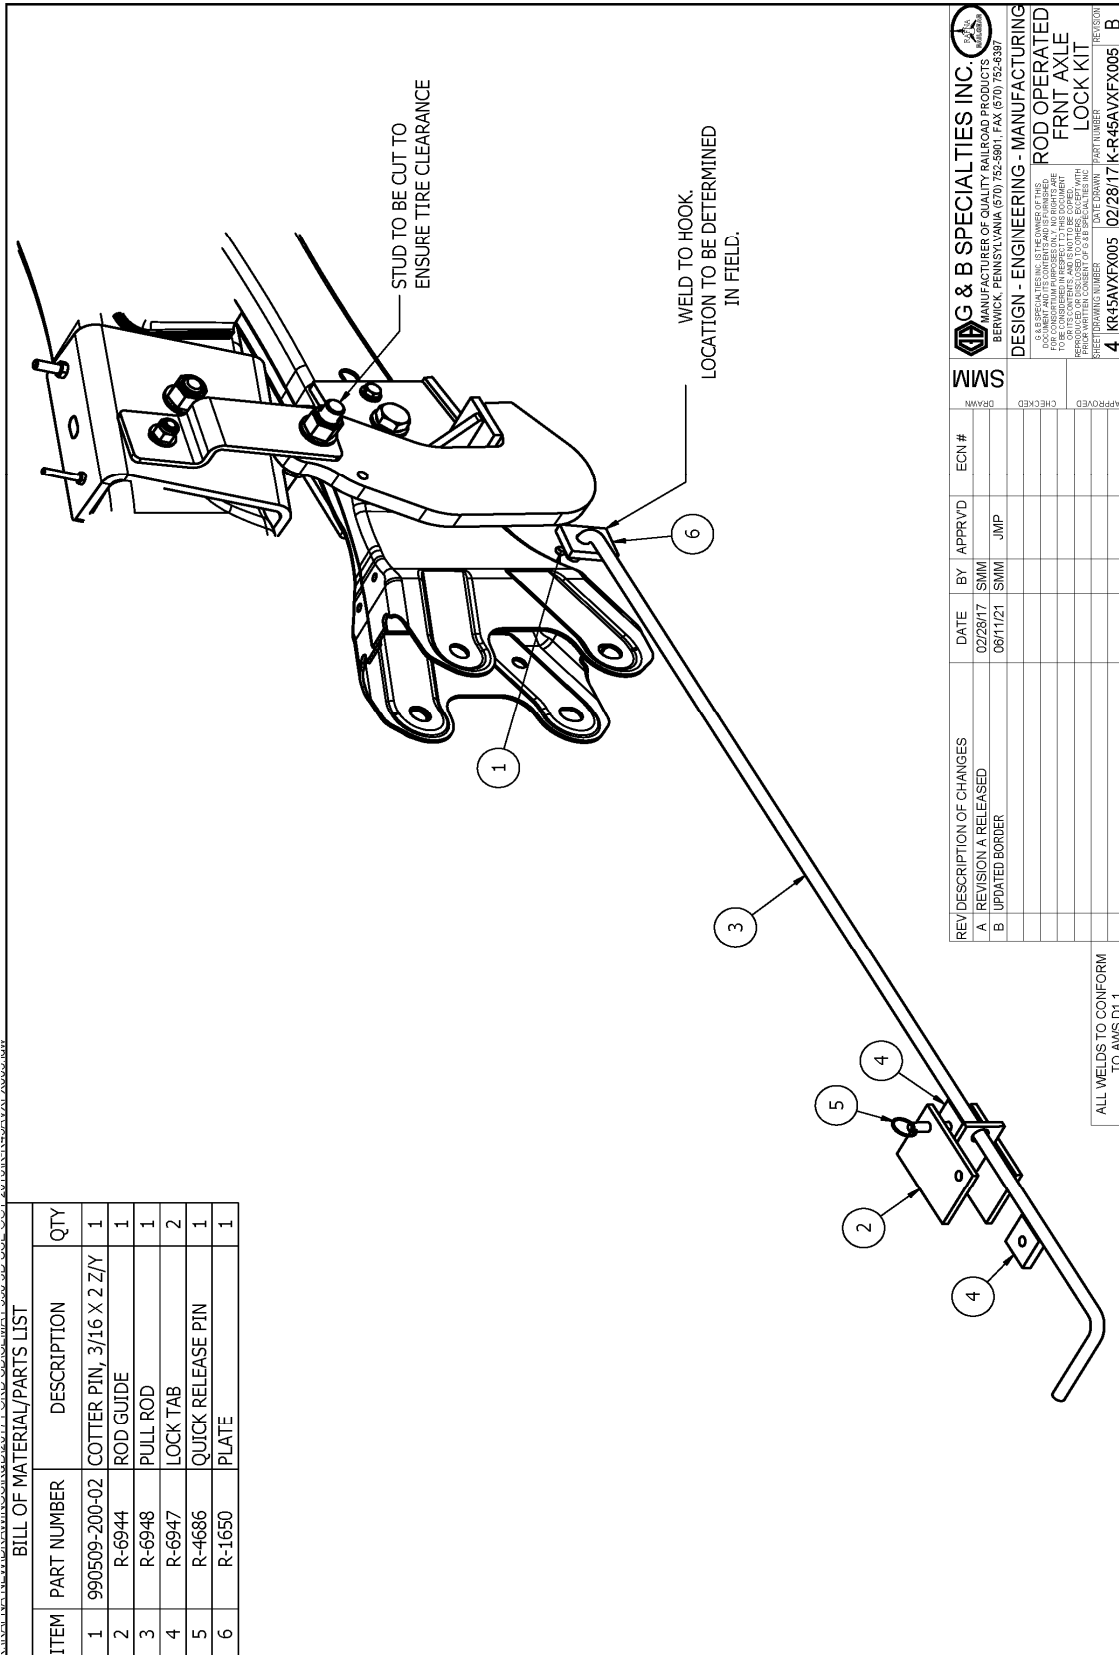

Figure 4
8. Position each plate at about the center of the forward-facing vertical edge of each hook as shown. Tack weld each plate to each hook temporarily. (Fig.4)
9. Assemble the short-bent end of each pull rod with each plate as shown using one 1/2" washer and one 3/16" x 2" cotter pin. Route the pull rod around the front suspension coil springs and other vehicle components so that it extends out toward the front of the vehicle alongside the railgear front mounting brackets. The pull rods can be heated and bent to fit. Trim the vehicle front bumper as required. (Fig.4)